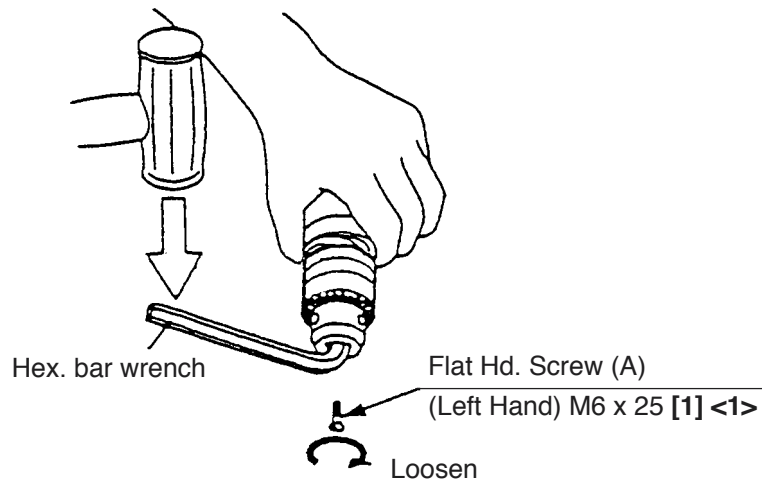

Fig. 4
- a. Hold the drill so that only the Drill Chuck [3] <3> rests firmly and squarely on the edge of a solid bench. Install the hex. bar wrench into the drill chuck. Turn the drill chuck until the wrench is at about a 30° angle to the bench top and strike the wrench sharply with a hammer so the drill chuck turns in the counterclockwise direction. (Fig. 4)